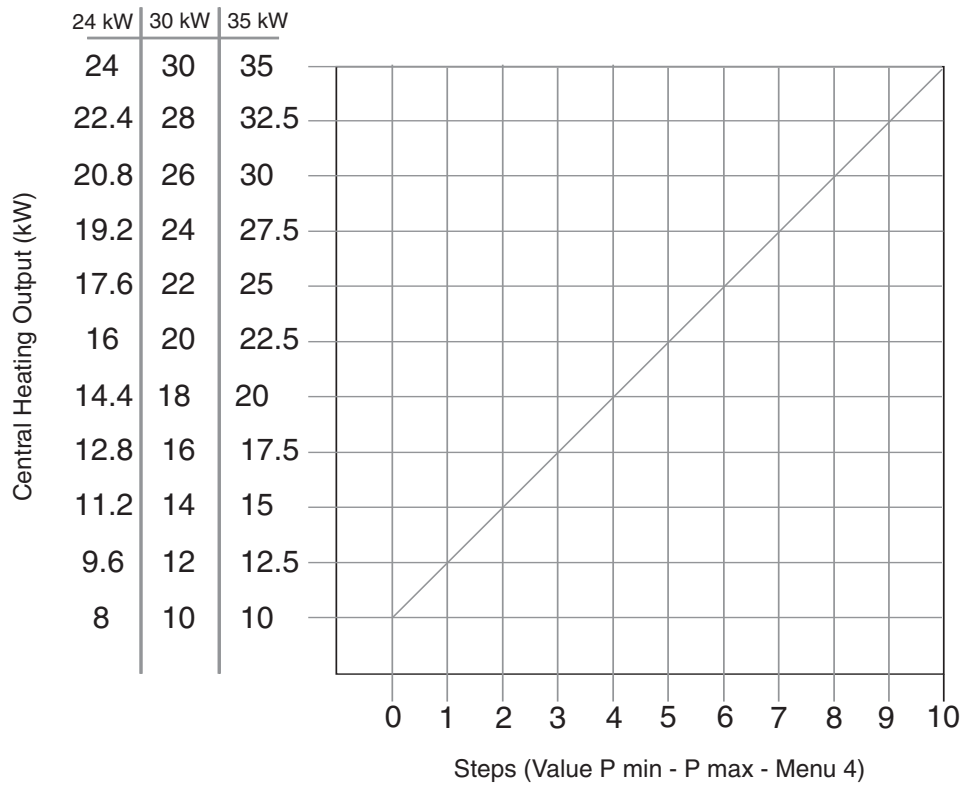

Fig. 39
5. Range rate the thermal power for central heating as detailed in Section 14.5. To adjust the maximum heating power it is necessary to follow the steps in Section 14.5 Menu 4 (page 38). and adjust in relation to the chart on Page 31 (Fig. 39);